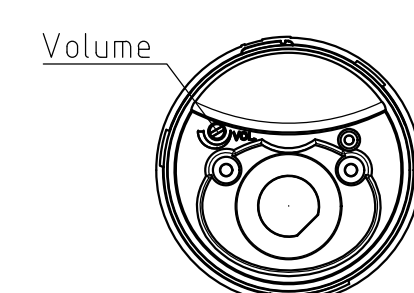

Fig2. Position of the volume (Body Underside view)
2. The Buzzer Volume is located on the underside of the body and is accessible by dismantling the product. (Refer to fig2.)
- The Buzzer Volume is located on the underside of the body and is accessible by dismantling the product. (Refer to fig2.)